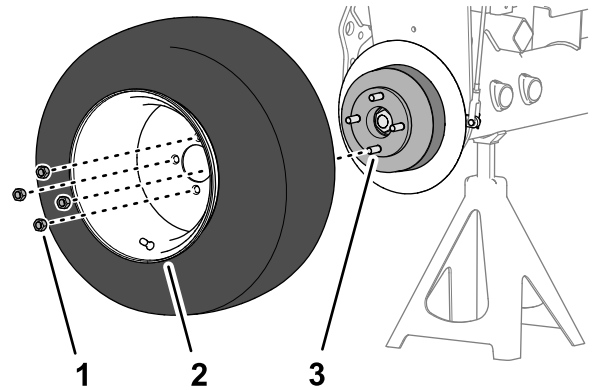

Figure 62
1. Remove the 4 lug nuts that secure the front wheel to the hub, and remove the wheel (Figure 62).